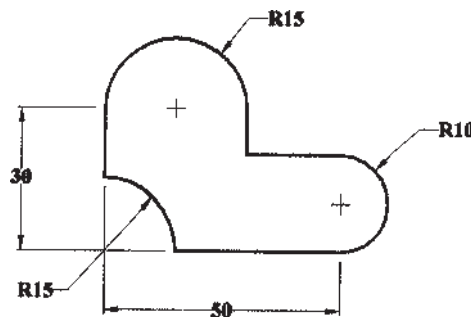

Fig: 1
b) What is C.P. ? Find it for the blank shown in fig.1. [8]
- Q5)** Design a blanking die to produce a component as shown in fig. 1.